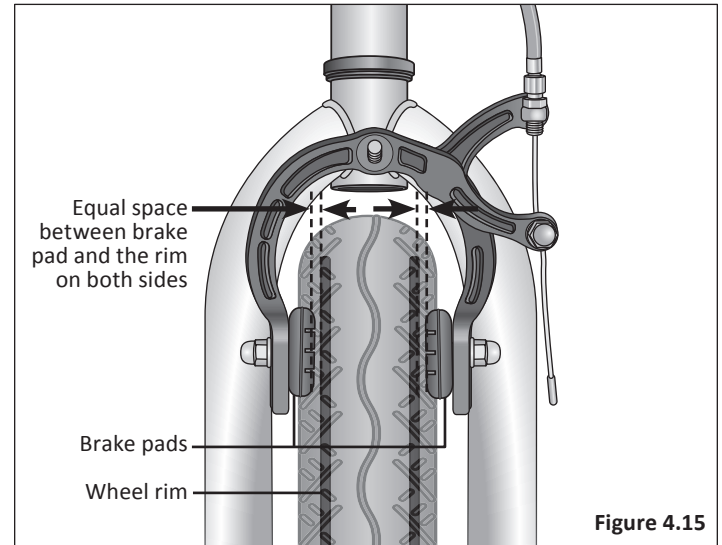

Figure 4.15
- The brake pads do not drag on the rim when the brake is open. **Figure 4.15**